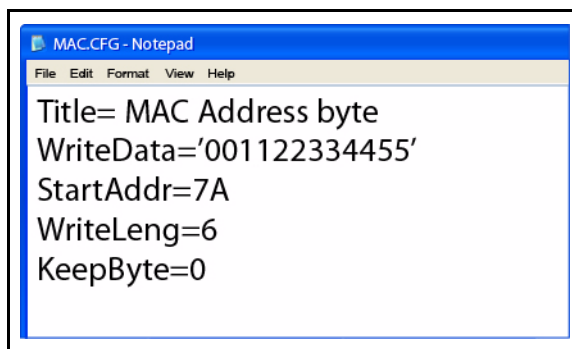

Figure 2-25. LAN MAC EEPROM
1. Use a text editor (Ex: Notepad) to open the *MAC.CFG* file. See the *MAC.CFG* contents in Figure 2-25